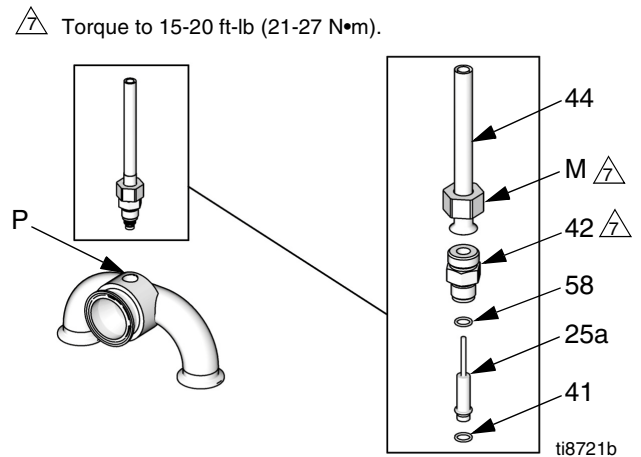

FIG. 10. Pressure Transducer
11. See FIG. 10. Loosen the nut (M) on the sensor conduit (44) and unscrew the adapter (42) from the transducer port (P). Remove the transducer (25a) from the port.
13. See FIG. 10. Install one new black o-ring (41) and the new brass spacer (58) on the transducer (25a).
16. See FIG. 10. Insert the transducer into the transducer port (P). Torque the adapter (42) first, then the nut (M) to 15-20 ft-lb (21-27 N•m).